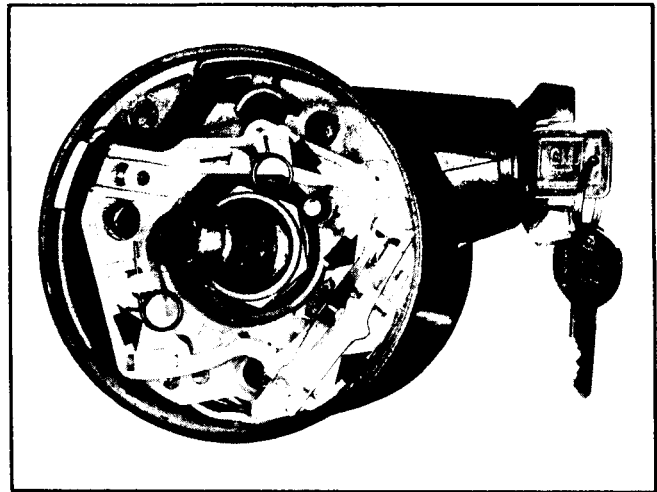

Fig. 12-14 Visual Check of Turn Signal Switch
1. With the upper part of the column disassembled so that the signal switch is visible (Figure 12-14) check for missing springs. Replace any spring that is missing, inspecting the molded pins which secure them. If these pins are broken, the switch must be replaced.